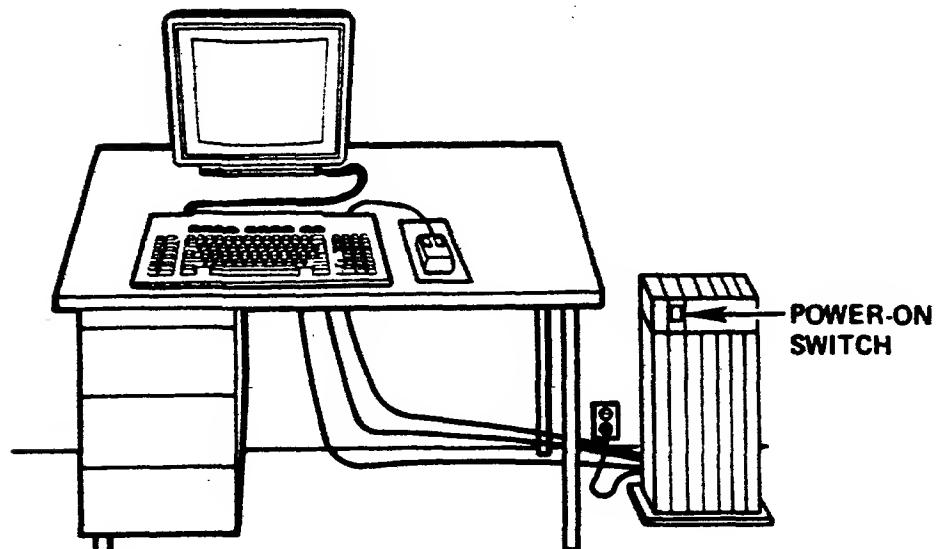

Figure 2-25. Powering On Processor
- 2. Insert the end of the power cord into the wall outlet and switch the power button on the processor unit to 1. This turns on the processor (Figure 2-25).**